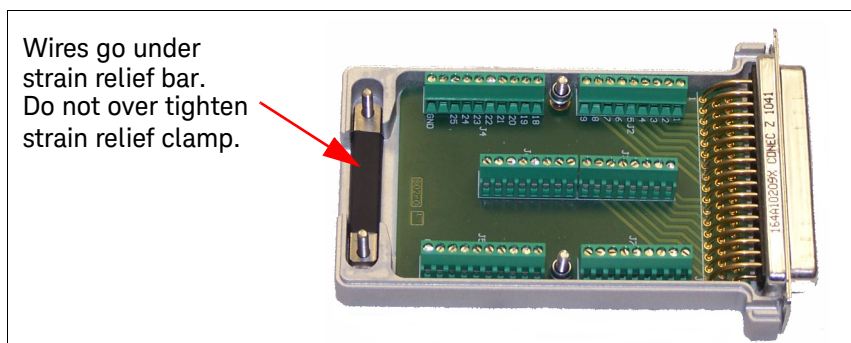

Figure 22 Using the Strain Relief Clamp
- 3 To use the strain relief, loosen the two strain relief screws and lift up on the strain relief bar. Refer to Figure 22.